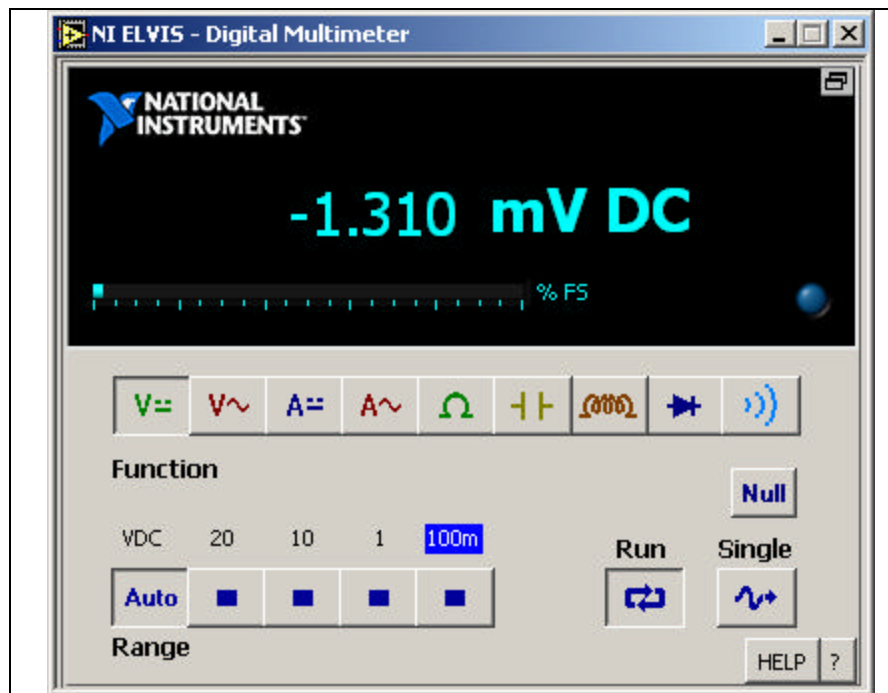

Figure 1 – NI ELVIS DMM
- b. You can launch the DMM by selecting *Digital Multimeter* from the menu. Once active, you should have a new panel similar to the one depicted in Figure 1. The DMM can be used for a variety of operations including measuring AC and DC voltages and currents, resistance, capacitance, and inductance.